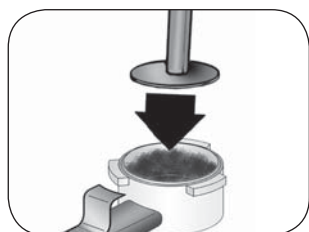

Fig. 8
- 2 Measure the coffee in the filter and press lightly with the pressing pad (Fig 8): for two coffees completely fill two measuring units, while for one coffee fill only one.